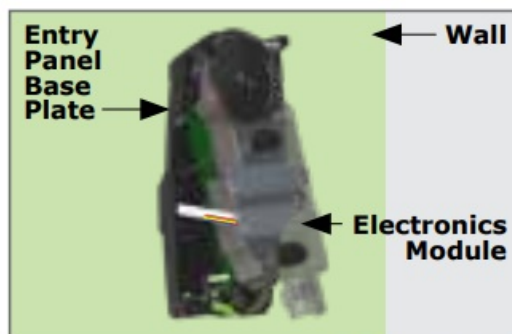

FIGURE 12
- Hook the Electronics Module into the Entry Panel Base Plate as shown in Figure 12 and clip it back into position.